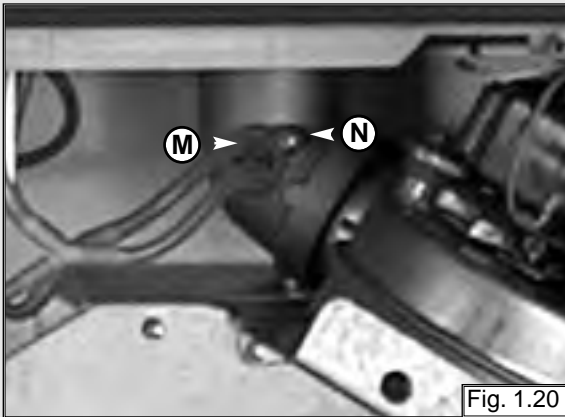

Fig. 1.20
1. Disconnect the silicone pipes "M" and remove the screw "N" (see fig. 1.20);